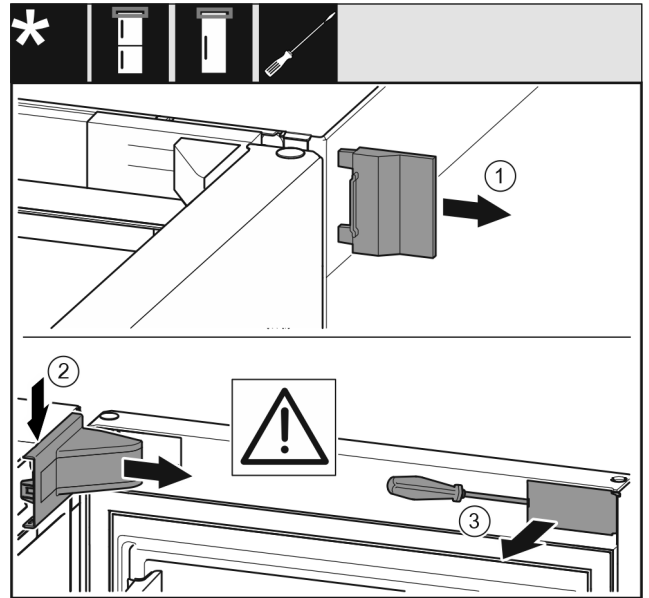

Fig. 6 *
- Remove the outer cover. Fig. 6 (1)*
- Disengage and release the bearing bracket cover. Remove the bearing bracket cover. Fig. 6 (2)*
- Unlatch the panel with a slotted screwdriver and swivel it to one side. Fig. 6 (3)*